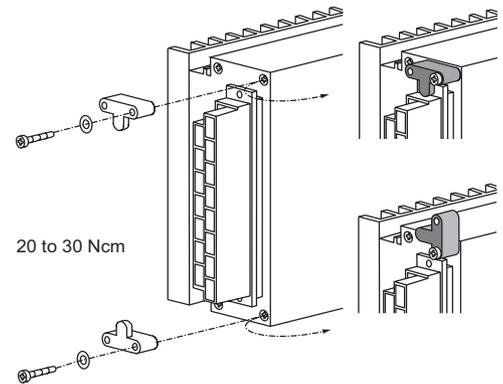

Fig. 24
- Connector retention brackets HZZ01216-G; see fig. 24